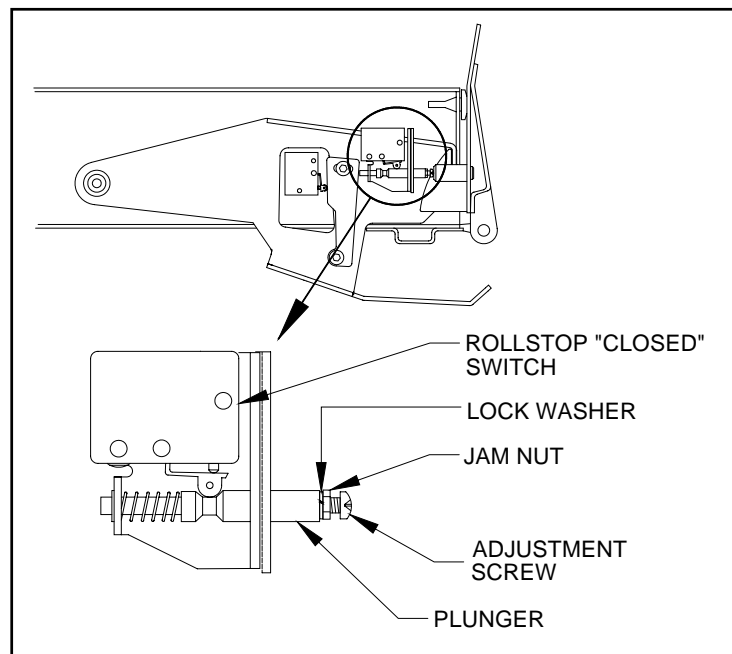

FIGURE 4-6: RSTP SWITCH ADJUSTMENT
- 5) Refer to **Figure 4-6**. Adjust the RSTP switch by loosening the locking nut and turning the adjusting screw protruding from the end of the switch plunger. Turn the screw clockwise to delay activation of the switch, and counter-clockwise to accelerate activation of the switch. The lock nut should be firmly locked against the plunger in order for the switch to maintain adjustment.